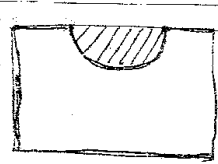

Fig. NO. 2
- c) A hemisphere of radius 80mm is removed from a cube of 200mm side, from the top face of the cube. Remainder remains symmetrical about y-y axis. Find center of gravity of the remainder body from the bottom. Refer fig.no.2